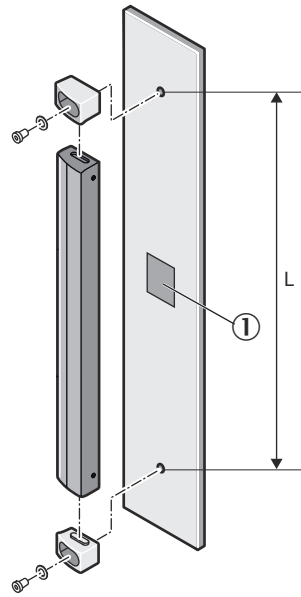

Figure 36: Mounting the miniTwin2 with O-Fix bracket
2. Insert the twin stick between the two O-Fix brackets. For applications in which strong vibrations could occur, from a device length of 600 mm, stick the twin stick to the mounting surface with two-sided adhesive tape (see ① in figure 36).